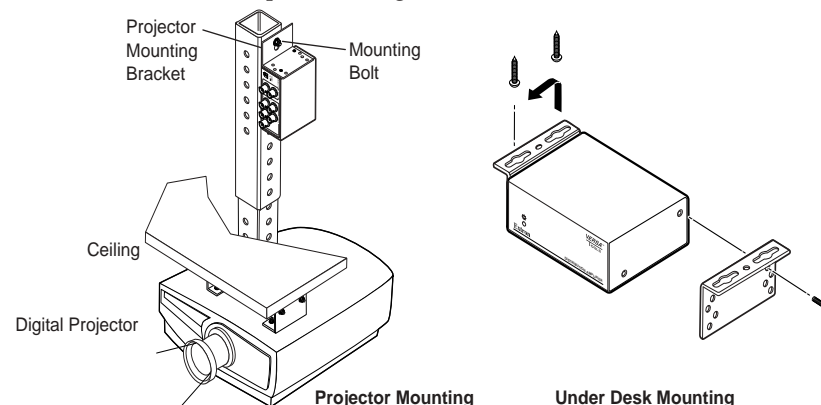

Figure 3 — Desk and projector mounting the MDA 5V, 5SV, or 5A RCA
1. Attach the mounting brackets to the MDA with the machine screws provided (figure 3).